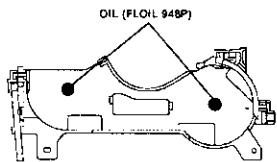

Fig. 2-22-3
- 5 Apply a small quantity of OIL (FLOIL 948P) [859D154020] to the area specified in Fig. 2-22-3 on the new PHOTO UNIT.